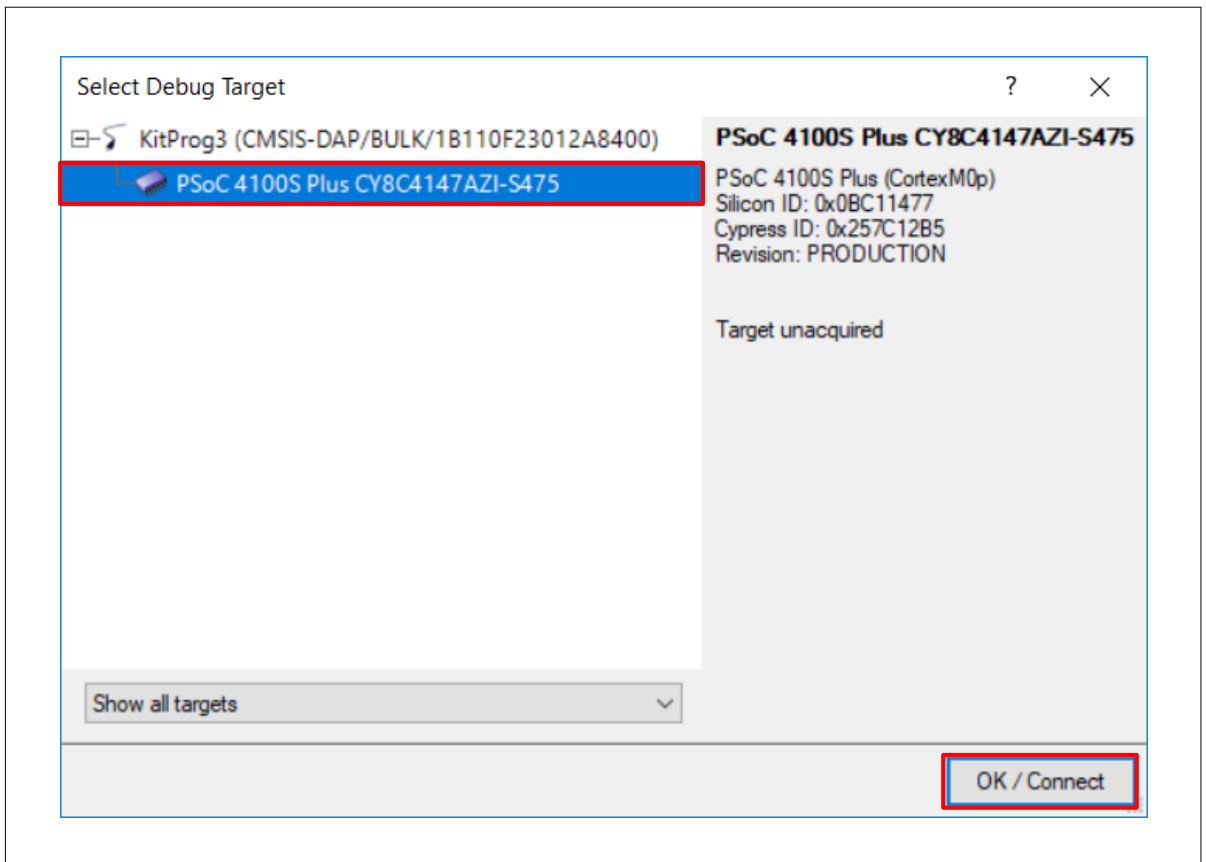

**Figure 48** Selecting debug target
1. Select the PSOC™ Creator menu item **Debug > Select Debug Target**, as shown in Figure 48.